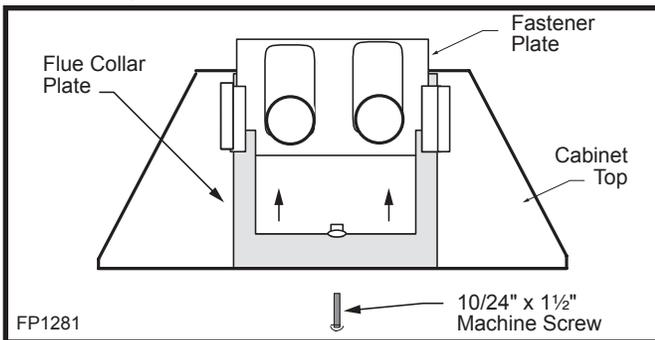

Fig. 13 Remove flue collar plate assembly.
1. Remove flue collar plate assembly. Unbolt the top fastener plate and move it to the back first before sliding the flue collar plate out from the top of the unit. (Fig. 13)